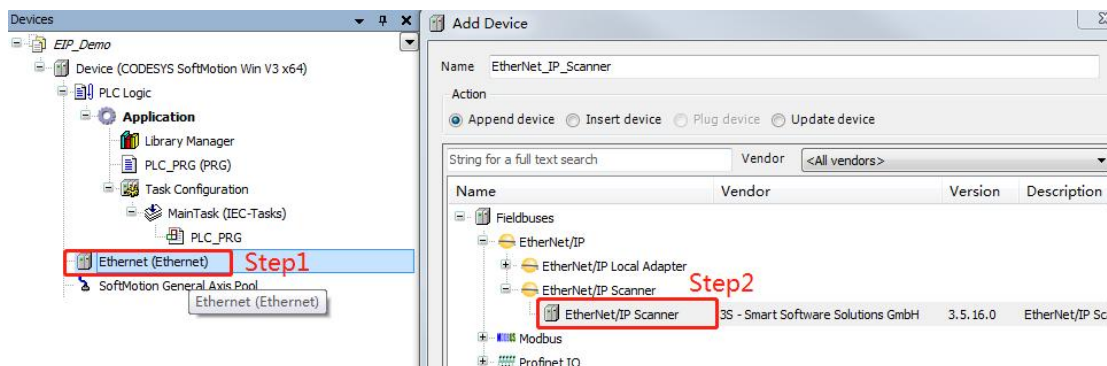

Figure 5-4-7
- As shown in Figure 5-4-7, select EtherNet/IP Scanner.